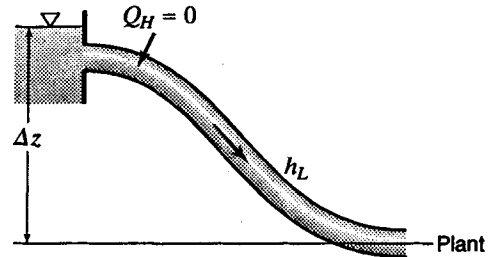

Figure X5.6.3
5.6.4 *The pipeline shown in Fig. X5.6.3 supplies water to a hydroelectric power plant, the elevation of which is 650 m below the level of the water at intake to the pipe. If 8 per cent of this total, or 52 m, is the head loss in the line, what will be the value of  $\Delta I$  in J/N if there is no heat transfer, and what will be the rise in temperature?*